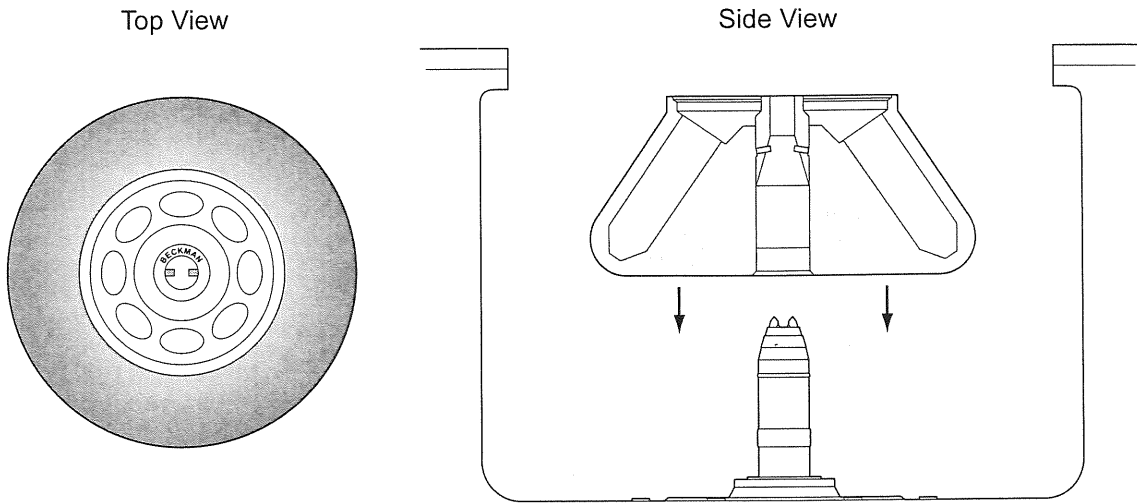

Figure 4. Installing the Rotor
In rotors manufactured since early 1997, the rotor pins are positioned parallel to the BECKMAN name engraved at the center of the rotor body (see Figure 4). Knowing the pin orientation before you install the rotor will help to ensure that you position the rotor properly on the hub, minimizing the chance of hub damage. Follow the steps below.
1. Turn the rotor until the BECKMAN name is either horizontal or perpendicular to the drive hub pins or teeth (see Figure 4). Alternately, rotate the drive shaft to align the drive shaft hub pins or teeth with the rotor drive pins.